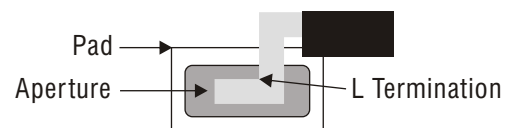

Figure 2
- ➔ Apertures can be shifted to the outside edge of a pad to reduce potential for "under chip" solder balls. (Fig. 2).